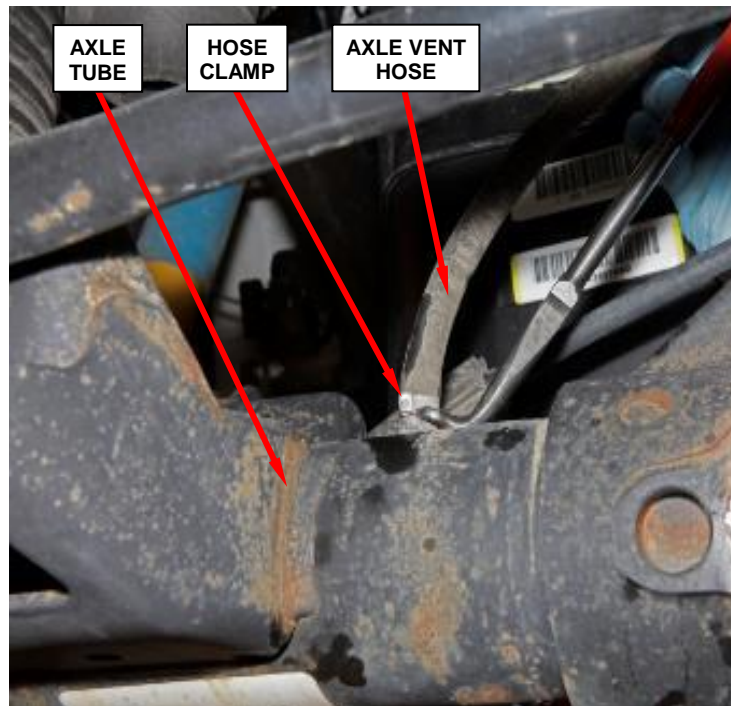

Figure 7 – Axle Vent Hose
8. Remove and **DISCARD** the hose clamp and disconnect the axle vent hose from the rear axle (Figure 7).